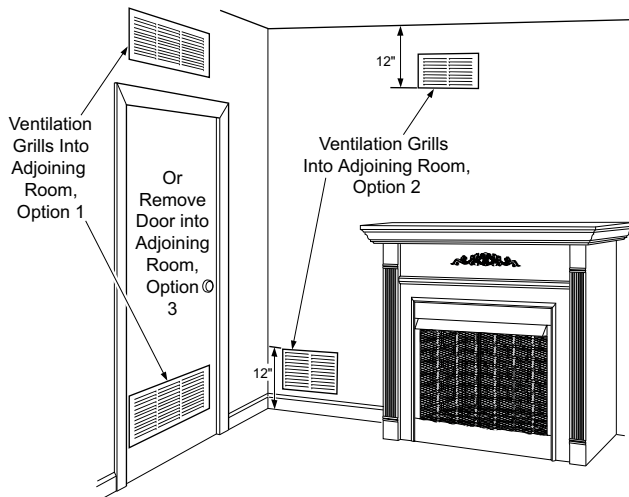

Figure 4 - Ventilation Air from Inside Building
This fresh air would come from an adjoining unconfined space. When ventilating to an adjoining unconfined space, you must provide two permanent openings: one within 12" of the ceiling and one within 12" of the floor on the wall connecting the two spaces (see options 1 and 2, Figure 4). You can also remove door into adjoining room (see option 3, Figure 4). Follow the ***National Fuel Gas Code, ANSI Z223.1/NFPA 54, Air for Combustion and Ventilation*** for required size of ventilation grills or ducts.
- where curtains, furniture, clothing, or other flammable objects are less than 36" from front or 42" from top of firebox; for side clearances see Figure 4, page 8
Example: The face of a mantel, bookshelf, etc. is made of combustible material and protrudes 3 1/2" from the wall. This combustible material must be 4" from the side of the firebox cabinet (see Figure 4, page 8).